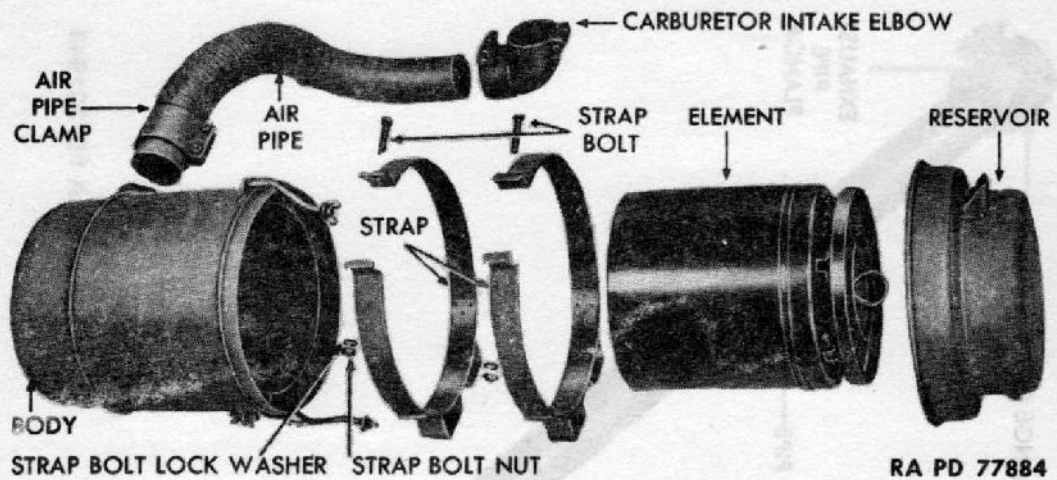
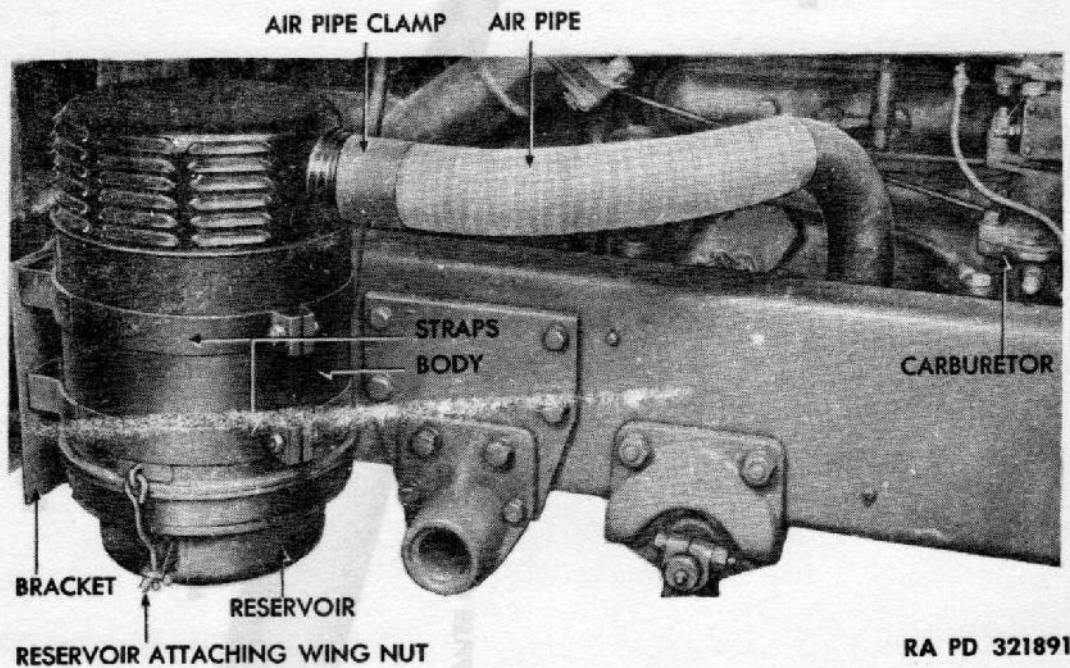

Figure 47 — Carburetor Air Cleaner Disassembled
Figure 48 — Carburetor Air Cleaner Installed
(1) **DESCRIPTION** (fig. 48). Air cleaner is attached to a bracket mounted outside the right-hand frame side rail at rear of engine. Access to cleaner is provided by an opening in cab skirt. Connection with the carburetor is provided through an air pipe clamped to cleaner and an intake elbow attached to carburetor. Purpose of cleaner is to remove foreign matter from air drawn into engine through the carburetor. This is accomplished by drawing the air through a mass of fine metal shavings. Foreign matter flows down to the oil in the bottom of cleaner where it is trapped.
b. **Maintenance** (figs. 47 and 48). Loosen the two wing nuts which secure reservoir to body of cleaner, and remove. Clean out reservoir, and refill with engine oil to "OIL LEVEL" mark (3 pt). Position reservoir to body of cleaner, and secure with the two wing nuts. Wash air cleaner element in gasoline or other suitable solvent every third time reservoir oil is replaced, or oftener, depending on dust conditions.
(1) DISCONNECT AIR PIPE FROM CARBURETOR (fig. 48). Loosen carburetor intake elbow clamp screw (fig. 47). Pull elbow from carburetor.
(2) REMOVE CLEANER FROM BRACKET (fig. 48). Remove the four nuts, toothed lock washers, and bolts which secure air cleaner straps to bracket. Remove cleaner.
(1) INSTALL AIR CLEANER (fig. 48). Position cleaner straps to bracket. Secure with the four bolts, toothed lock washers, and nuts.
(2) **CONNECT AIR PIPE TO CARBURETOR** (fig. 48). Fit pipe to carburetor and tighten elbow clamp screw.